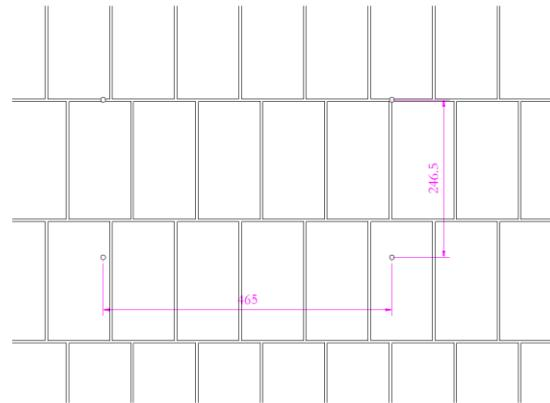

Figure 18: Hole punching diagram for Wall-mounted installation
- On the selected wall, use a percussion drill and choose a suitable drill bit [$\varnothing 8\text{mm}$ is recommended] to make a hole according to the size [465*246.5mm] in Figure 18, and the depth is about 50mm;